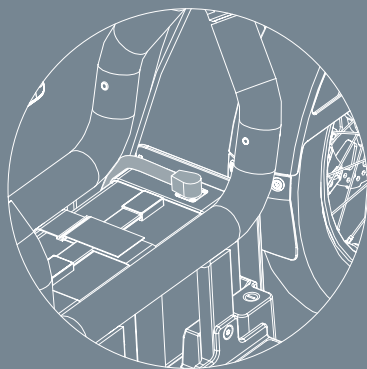

Fig. 3
1. Plug the battery cable into the battery, see Fig. 3. The lock mechanism makes a clicking sound.